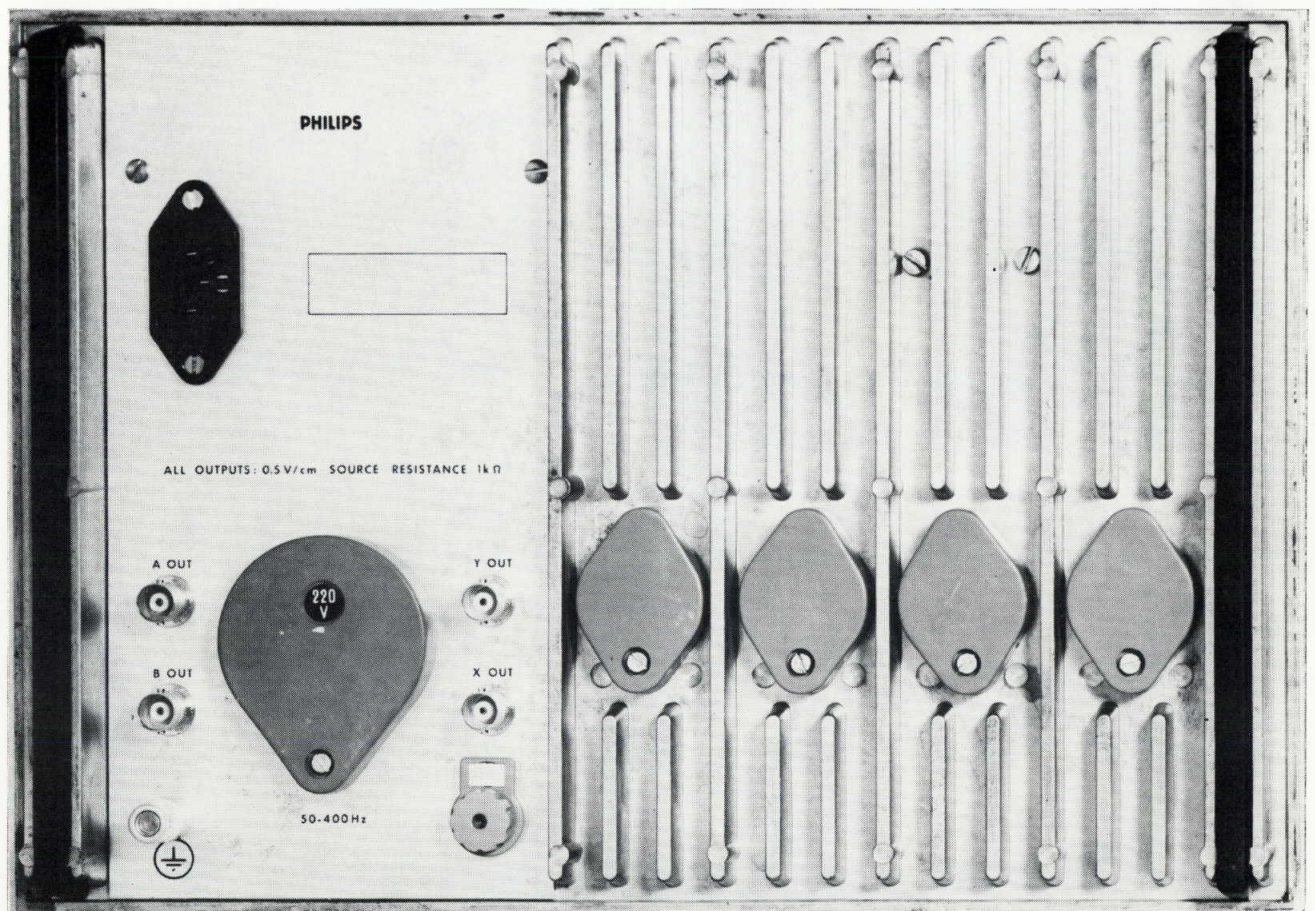

Fig. V-2 Rear view
The set voltage can be read through the aperture in the plastic lid on the rear panel (Fig. V-2).
- b. Via the earthing socket P13 on the rear panel (Fig. V-2)